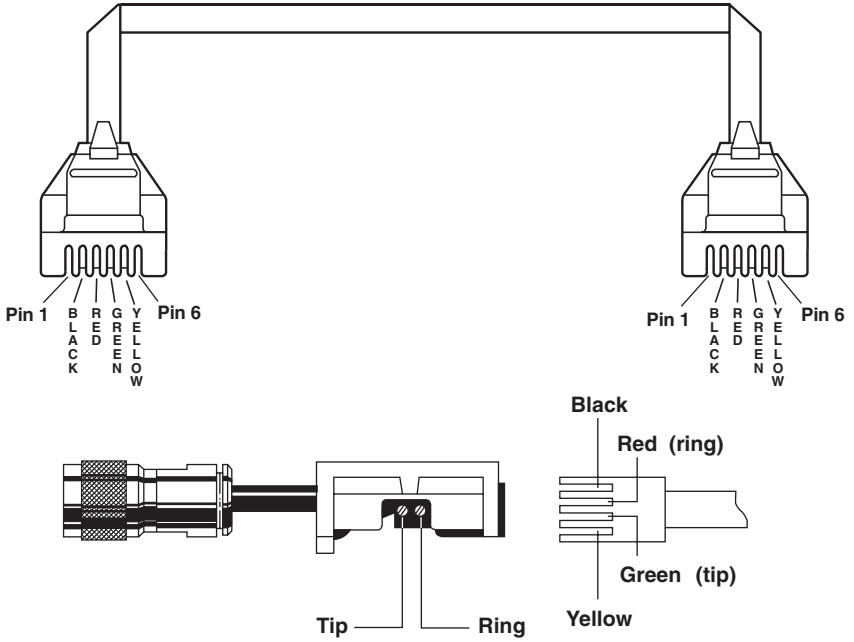
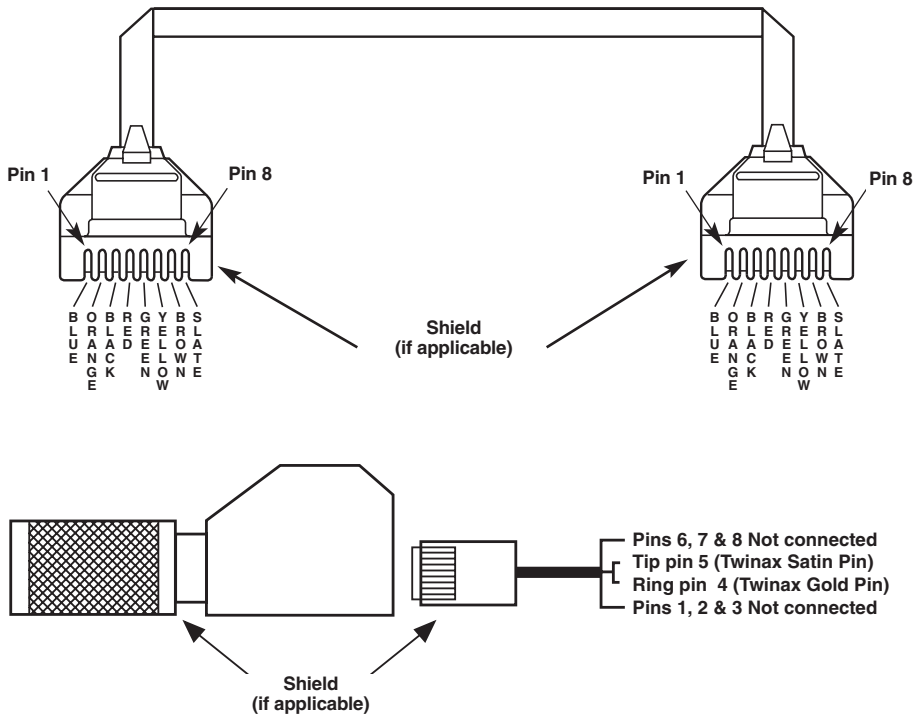

Figure 3. Modular jack pin-out conventions for RJ-11.
Figure 4. Modular jack pin-out conventions for RJ-45.
1. Identify the pin configuration (see **Figures 3** and **4**).
Figure 4 illustrates modular jack pin-out conventions for RJ-11. The standard is Pin 3 for Ring and Pin 4 for Tip. This is a straight-pinned cable.
Figure 4 illustrates modular jack pin-out conventions for RJ-45. It also is a straight-pinned cable.
Baluns are polarity-sensitive. Cables must be wired straight-through, as in Figure 3 (Tip to Tip and Ring to Ring) and Figure 4. Data will not be transmitted if there are crossovers on the cable. If your terminal will not work, and distance is within specified limits, try reversing Tip and Ring at one of the baluns.